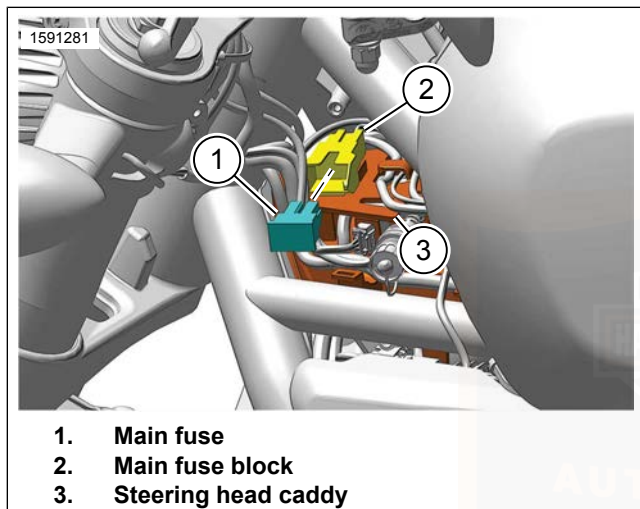
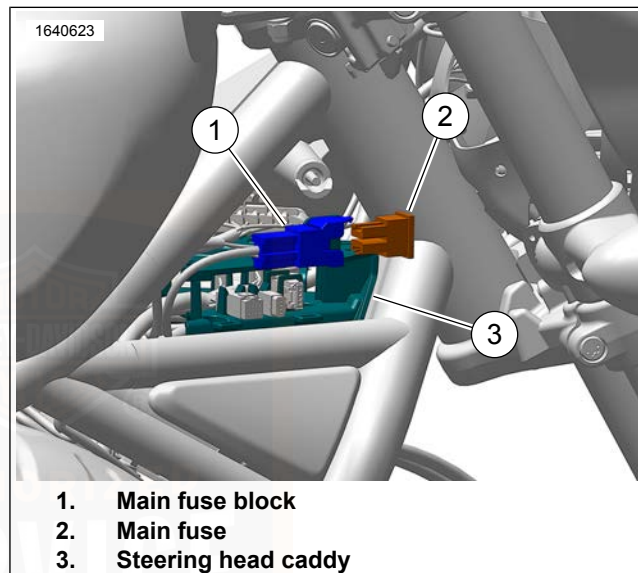

Figure 98. Main Fuse Location (RH1250S)
Figure 99. Main Fuse Location (RH975/S)
3. See Figure 98 or Figure 99. Remove main fuse block from steering head caddy (3).
1. See Figure 98 or Figure 99. Install main fuse.
2. Install main fuse block into steering head caddy (3).